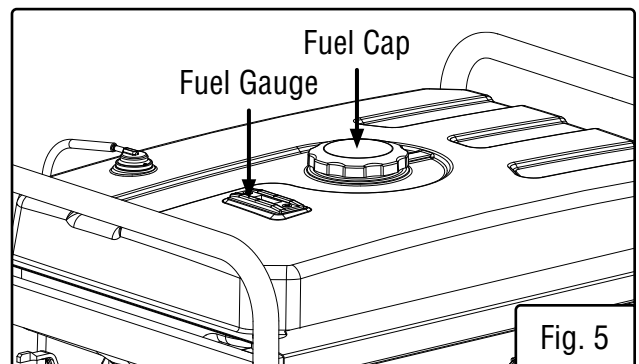

Fig. 5
1. Make sure the generator is shut OFF and on a level surface. Unscrew the fuel cap (Fig. 5) and set it aside. The fuel cap may be tight and hard to unscrew.